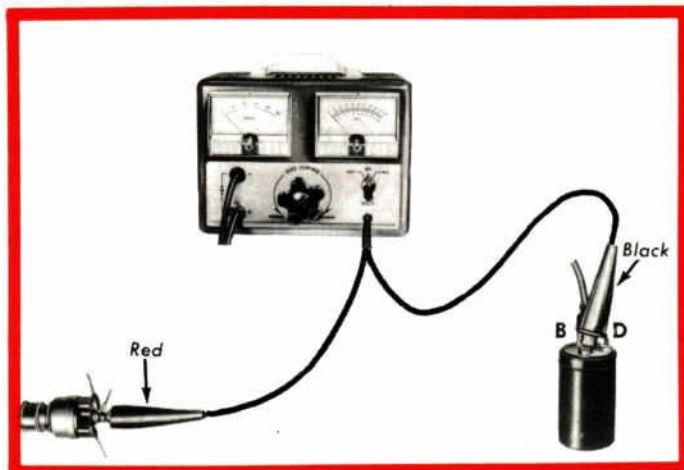

Figure 6—Resistance Wire Test
1. Connect the voltmeter leads as shown in Figure 6.